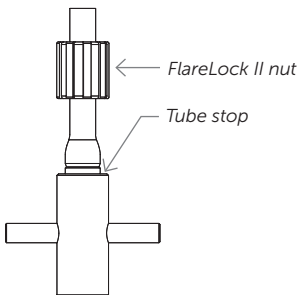

Figure 3.
- Remove the PFA tubing from the heat source. Immediately push the flaring mandrel (see Figure 3) into the tubing until the end of the tubing reaches the tube stop.